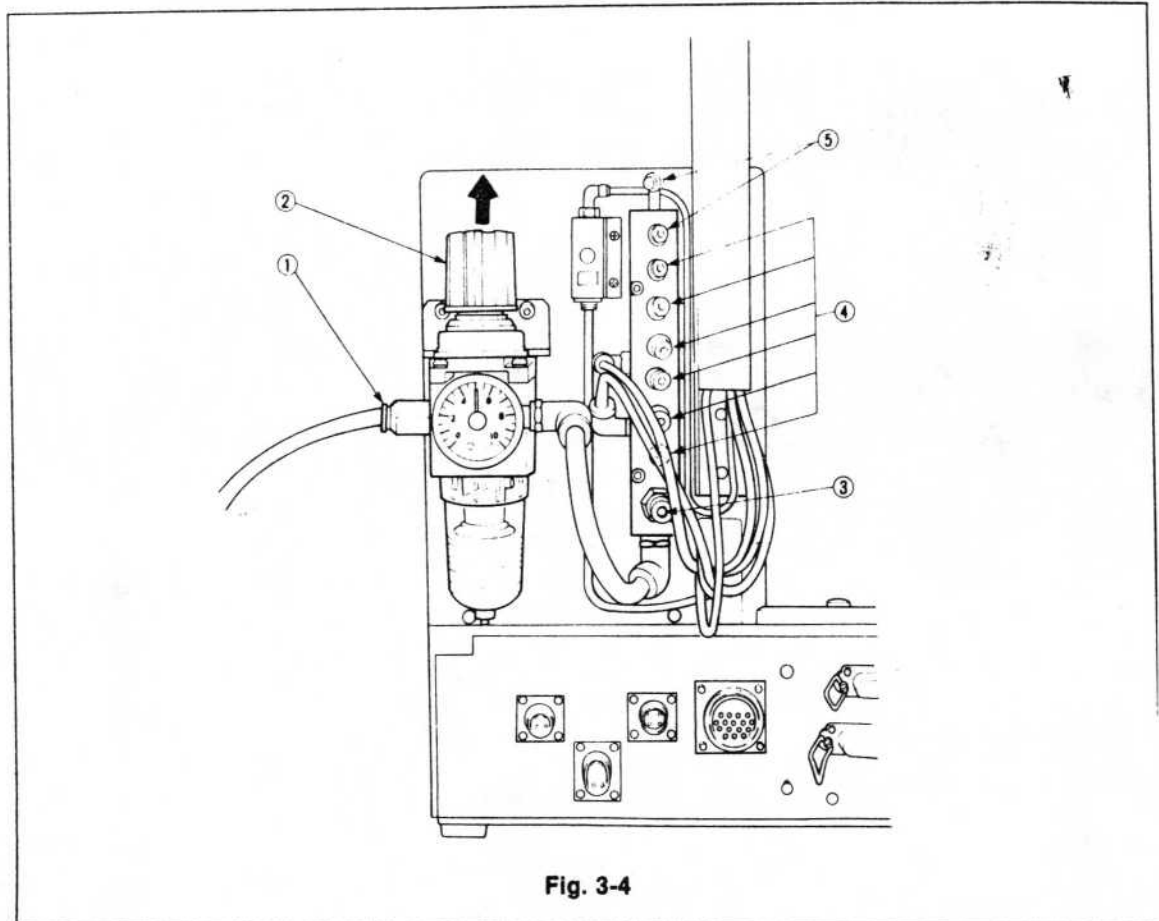

Fig. 3-4
1. For air supply (dry air), use an accessory air hose ( $\varnothing 8$  tube) and attach it to the Air Intake ①.
2. Raise the filter regulator ② knob in the direction of the arrow as shown in Fig. 3-4 and rotate it clockwise. When the air pressure reaches  $5 \text{ kg/cm}^2$  lower the knob.